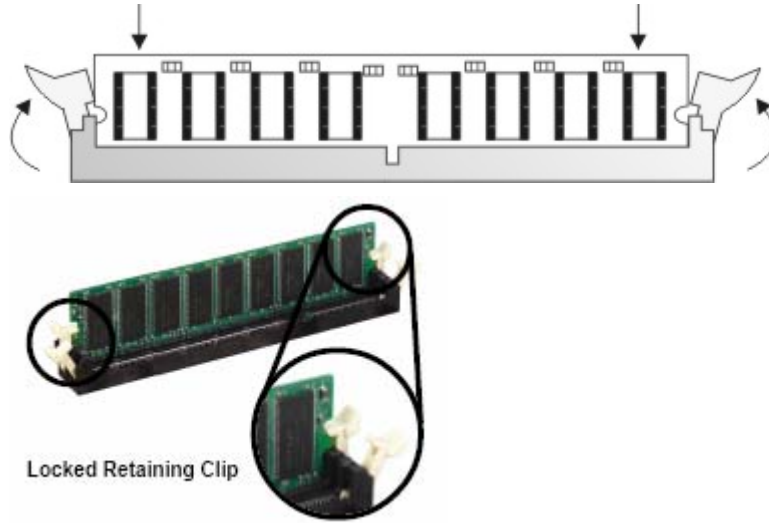

Figure 4-5: Locking the DIMM Module
Step 2: Slowly slide the DIMM module along the plastic guides on both ends of the socket. Press the DIMM module down into the socket until it clicks into position and the two handles have automatically locked the memory module into place (Figure 4-5).